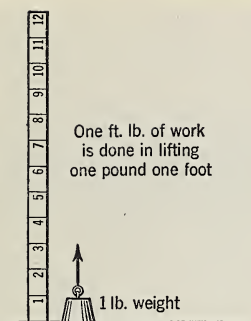

FIG. 229. Work done in lifting a weight equals weight times vertical distance.
1. Gravitational units. If one pound of force acts through a distance of one foot, it does one *foot-pound* of work. This unit of work almost defines itself. (See Fig. 229.) A man who weighs 160 lb. does 1600 ft.-lb. of work in